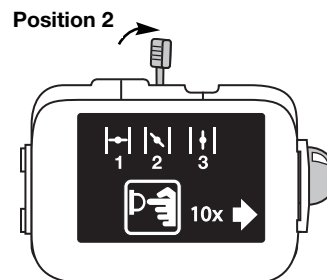

Fig. 14
7. Place the choke lever in **Position 2** (Fig. 14).